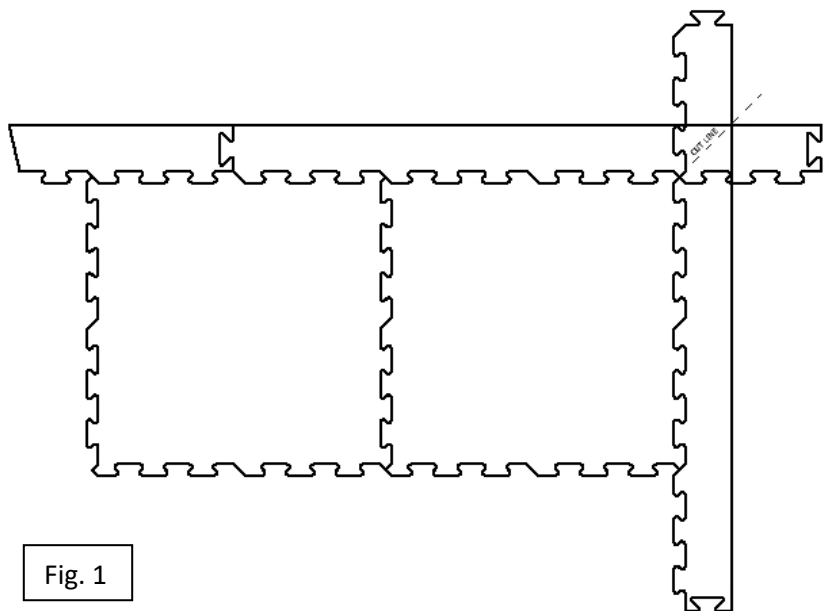

Fig. 1
- Align the interlocking tabs of the reducer strip to the interlocking tabs of the tile (**Fig. 1**).
- Using a carpenter square or straight edge create a line from the corner of the tile to the outside intersection of the reducer strips (**Fig. 1**). Using a knife cut through the reducer strip.